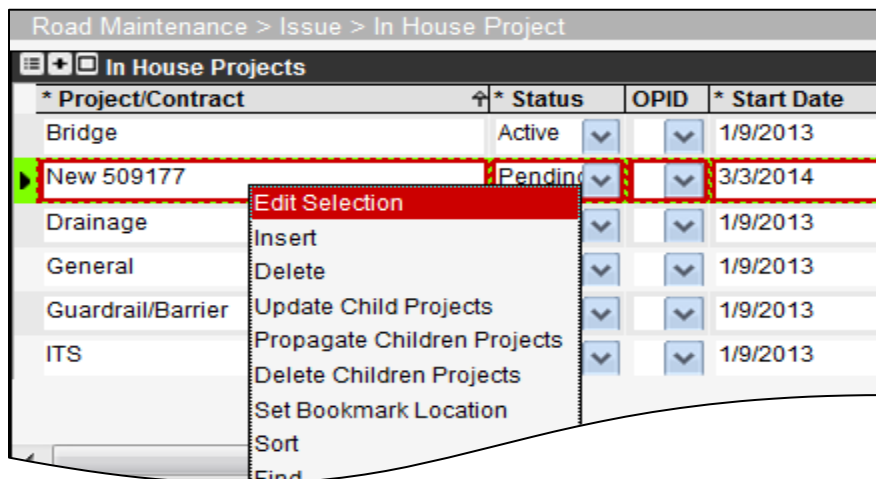

Figure 2-2. In House Project – Edit Selection
4. Perform an **Edit Selection** function on the newly created Project record (Figure 2-2).